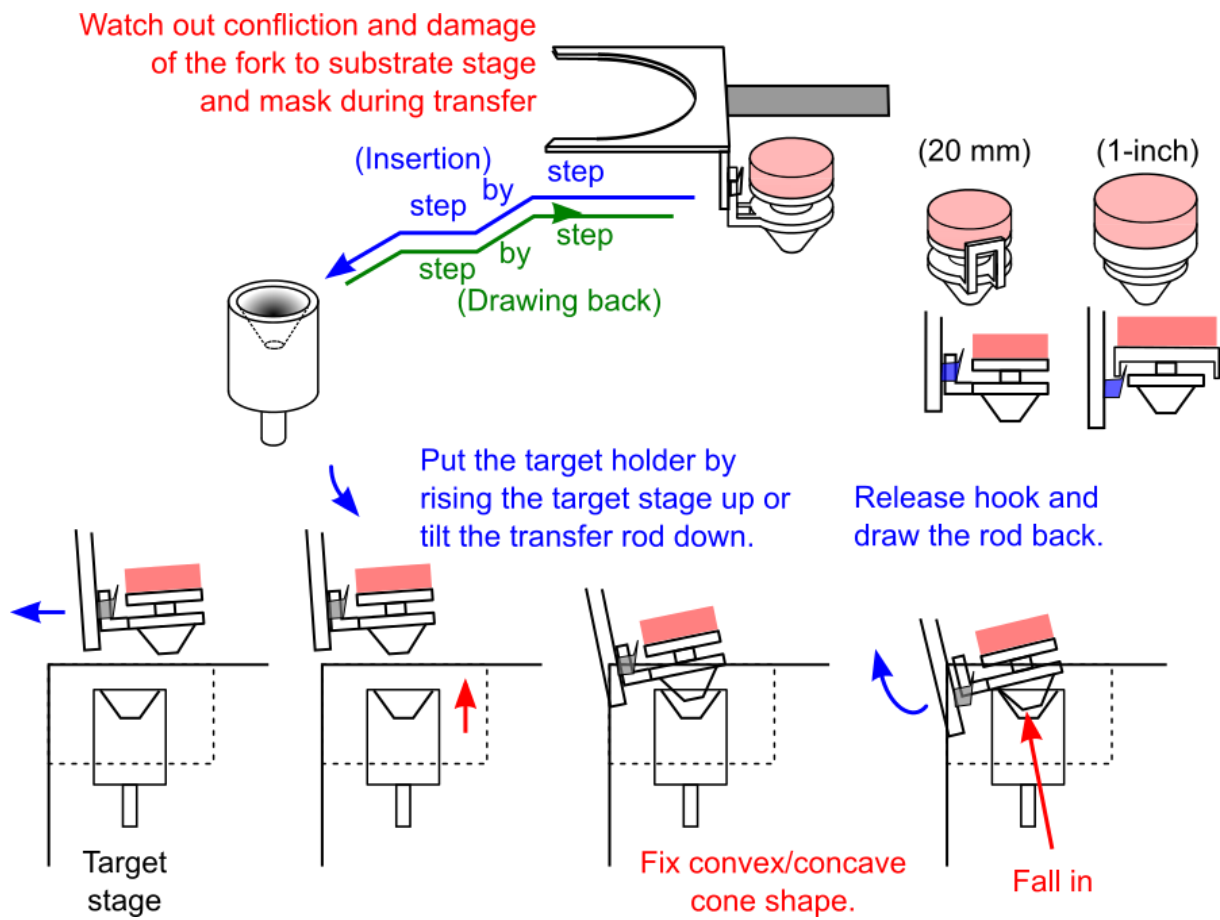

Figure 7: Target holder transfer to the target stage in the main chamber.
- (4) Transfer a source target holder (see Figure 7)